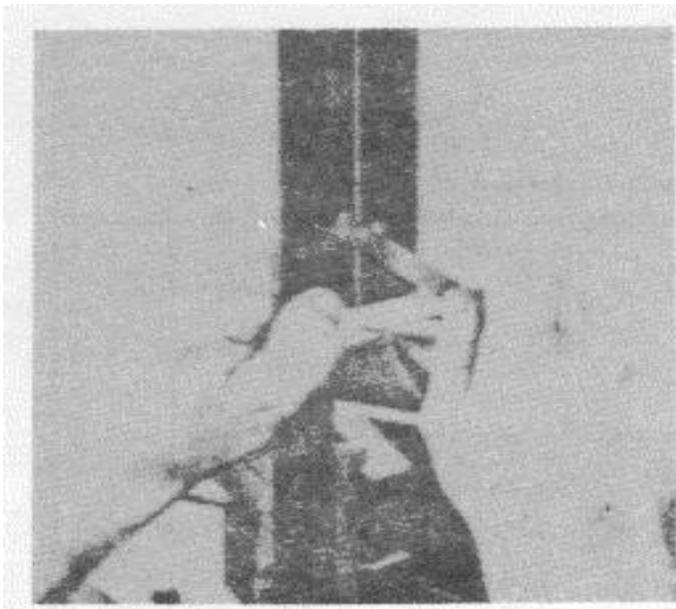

Fig. 3 - Checking alignment of post to lower saw guide keeper block by means of a straight edge and feeler gage.
(1) Place machine in desired location. Use 1/4-in. spacers between the floor and the base mounting pads of the machine.
(2) Shim under the pads as required until the machine is level and bears evenly on all pads. Uniformity of bearing can be checked by tapping on the spacers with a bar or hammer.
(3) Install a 1/2-in. wide saw band and apply correct band tension. Remove table center plate and post saw guard.
(4) Clamp or hold a straight edge (fig. 3) to the front face of the post and the face of the lower saw guide keeper block.
(5) The post should be parallel with the machined saw guide mounting recess in the lower keeper block. As shown in fig. 3, this parallelism is checked by placing a spacer block (ground to exactly .250" thickness) in the keeper block.